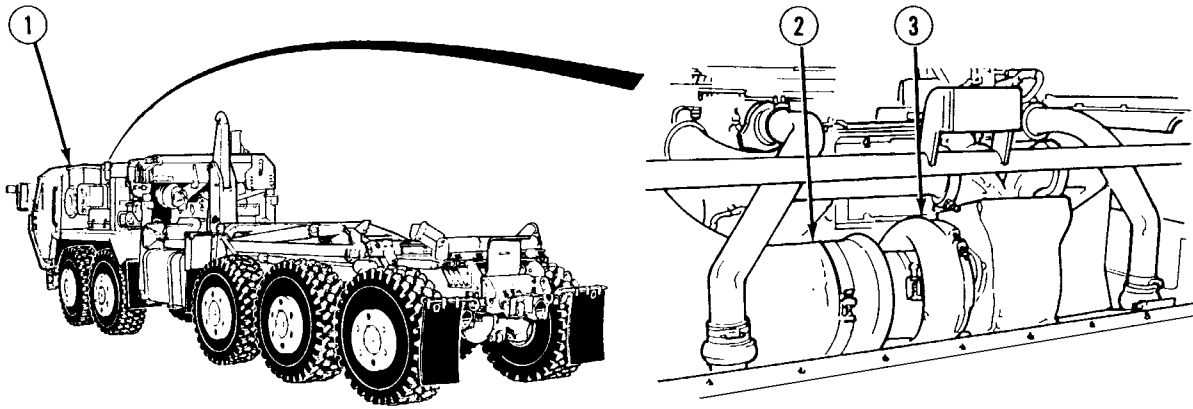

Figure 1-7. Air Intake System
b. Air Intake System. The air intake system (Figure 1-7) consists of a dry-type air cleaner (1), ducting (2), turbocharger (3) and engine blower. Engine exhaust gases flow through the turbocharger driving a turbine wheel. A compressor wheel on the opposite end of the turbine wheel shaft rotates and draws in fresh air through the air cleaner, compresses the air and delivers it to the engine blower.